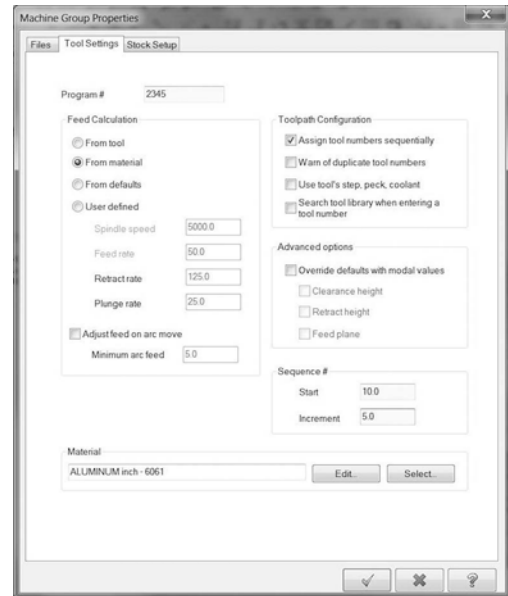

Figure 5-41 Tool Settings Dialog
- Open the Tool Setting dialog and complete, per Figure 5-41.